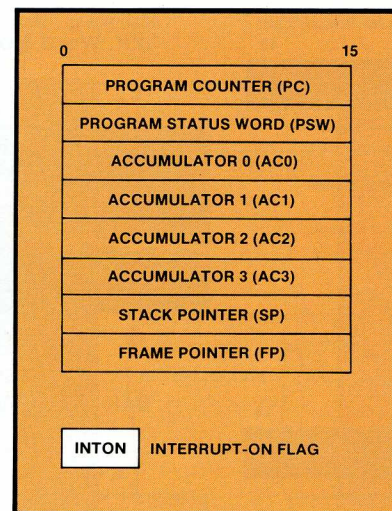

Fig. 3 F9445 Register Model.
There are eight user-accessible registers in the F9445 (see Figure 3), including seven 16-bit registers and a program status word (PSW) register. The seven 16-bit registers are a program counter (PC), four general-purpose accumulators (AC0 through AC3), a stack pointer (SP), and a frame pointer (FP).